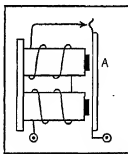

FIG. 134. Electric buzzer.
**Prob. 2-7.** An electric buzzer has two coils wound on soft iron cores as shown in Fig. 134. The piece of iron *A* is called the armature and is attracted by the electromagnets. Sketch some of the lines of magnetic flux due to the current in the coils.
**75. Buzzers.** A buzzer is constructed like any of the bells described above. (See Fig. 134.) The clapper and bell are left off and the noise is made by the vibrating armature. A master buzzer is often used to operate a set of cheap bells. These bells must be of the single-stroke type arranged in series. The buzzer merely opens and closes the circuit and causes the bells to act as vibrating-stroke bells. This is a very handy arrangement, since the contact points on the buzzer are the only ones in the circuit to get out of order, and therefore the system is more easily kept in good condition.